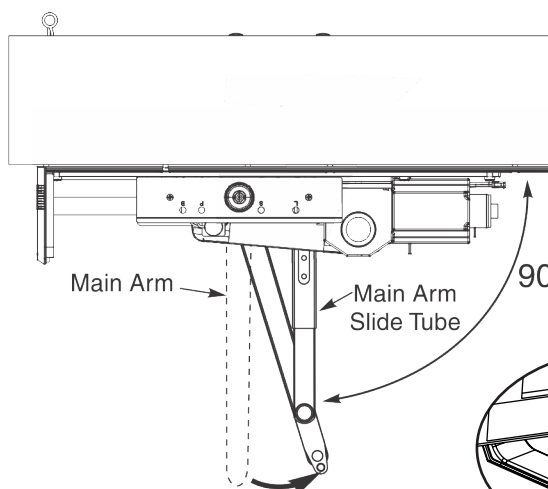

Figure 22 View from ceiling looking downward
4. With door closed, rotate main arm away from hinge until adjusting tube is perpendicular (90 degrees) with door. (Figure 22)